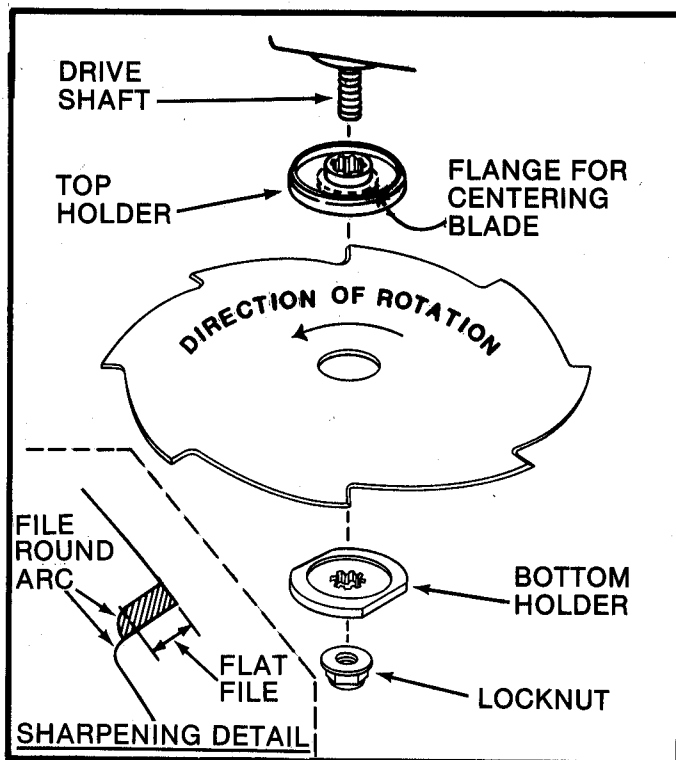

FIG. 7 - CUTTING BLADE INSTALLATION
**NOTE:** When installing a blade on the output shaft, the top and bottom holders are used in a different sequence - also, a lock nut is provided with the optional blade. Refer to FIG. 7.
1. Position the centering flange of the top holder into hole of the blade. Make sure cutting edges are positioned as shown in figure 7.
**BLADE SHARPENING PROCEDURE:** Check blade for nicks and cracks and discard if any are found! Sharpen blade cutting edges as shown in figure 7. Be sure to maintain radius at base of tooth to minimize chances of cracks developing in this particular area of the blade.